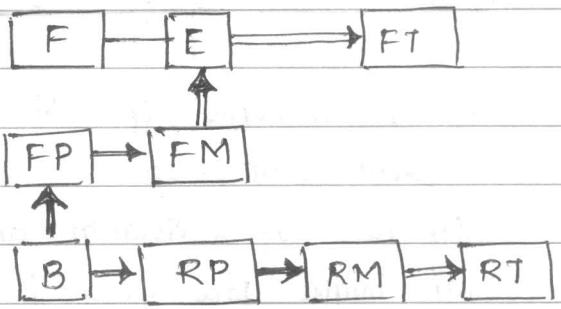

fig 5b Mode 2, full throttle acceleration
- Mode 2: During full throttle acceleration (fig 5b) both the ICE and the front wheel EM deliver the power to the front wheel and the second EM deliver the power to the rear wheel.